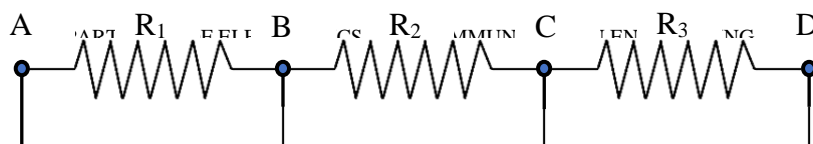

Figure 8.3: Maximum Power Transfer Theorem
1. Connect the circuit as shown by Figure 8.3 on the bread board.